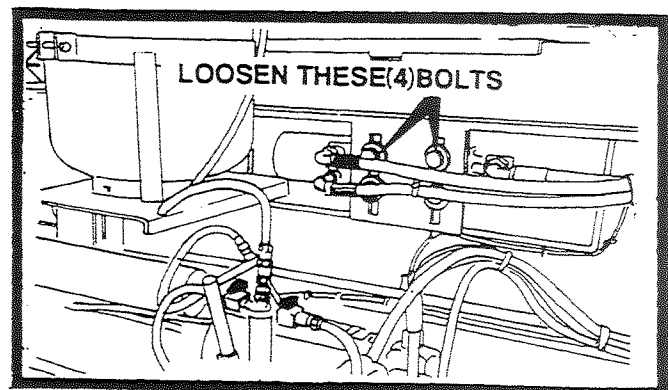

FIGURE 36
1. The auger chains should be just snug, not loose. To snug up, loosen bolts in slots provided for takeup. See figure 36.